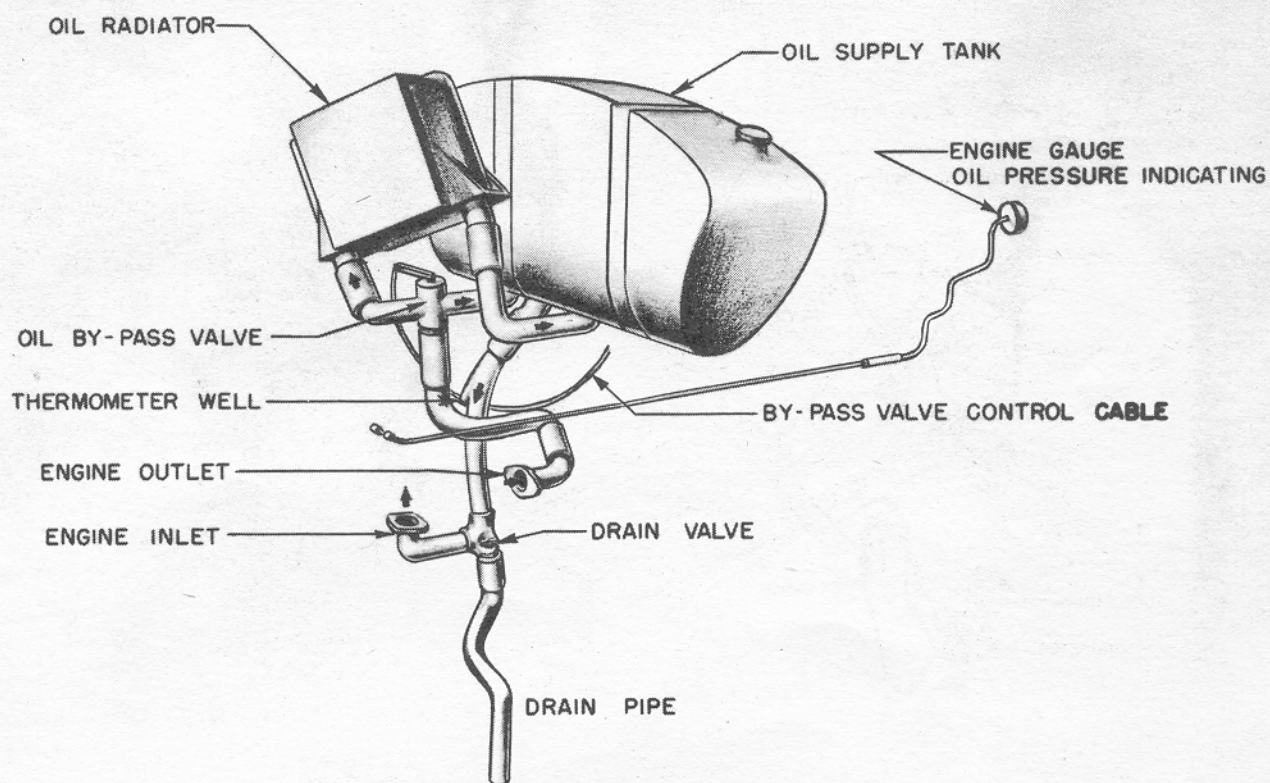

Figure 9 - Oil System
e. Oil System. (See figure 9.)